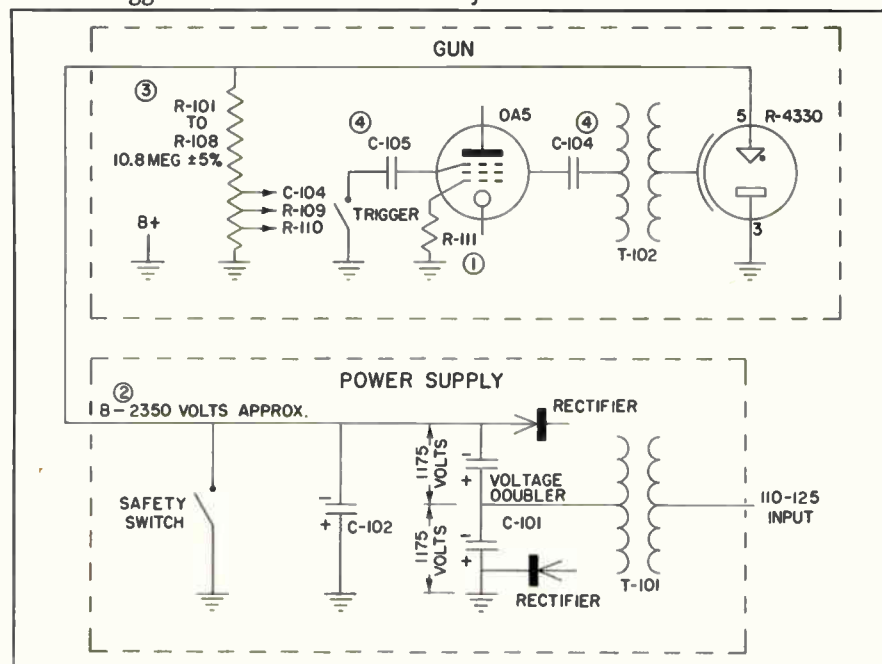

Figure 2. A partial single line schematic of a photoflash unit to aid in trouble shooting. Circled numbers indicate trouble points mentioned in the article.
When servicing electroflash units, the first thing to be determined is the location of the source of the trouble. In most cases, you can assume that if the "keep alive glow" is visible in the Sylvania Type OA5 trigger tube, the power supply is operating normally. The OA5 tube can be seen by unscrewing the bottom end cover on the base of the gun on Wabash models. The "keep alive glow" appears as a small lighted violet spot at the base of the tube elements. If the glow is not visible, it could, of course, be a gun defect such as a defective OA5 or an open resistor R-111, in Figure 2 (1)\*; but, as stated previously, the chances are that it is power supply trouble. Therefore, checking the power supply should be the next logical step. The power supply should be removed from the cabinet to be sure that the storage capacitor is discharged before any attempt is made to measure voltages. The case should never be removed from the gun before it is detached from the power supply.
After all precautions have been taken with the capacitor, a voltage reading should be taken of the output. The meter should be switched to its high range and connected to the circuit before the supply is turned on, bearing in mind that all Wabash electroflash equipment use a positive ground. Before turning the power supply on, set it in an upright position so as to disengage the shorting switch contact. The voltage reading obtained should be approximately 2350 volts, in Figure 2 (2), at a normal line voltage of 117 volts a c input in units using either Sylvania Type R-4330 or R-4340. Should the output reading obtained be much less than this figure, normal power supply service procedure can be used in checking out the components.
The first check should be a resistance reading of the voltage divider network made up of resistors R-101 to R-108 in Figure 2 (3). This can best be done by measuring between pins 3 and 5 of the flash tube socket or between pin 5 and the exposed shield of the high voltage cable. The reading obtained should be approximately 10.8 megohms, plus or minus five per cent. If the variation exceeds five per cent, check each resistor in the divider individually and replace if necessary. Special attention should be given to the value of R-101 to see that it is within its five per cent tolerance; intermittent operation may result if it is not. The unit will flash automatically without being triggered or will not flash at all, depending on whether R-101 is excessively above or below its specified tolerance. Should the divider resistors check okay, a check should then be made of the values of the trigger tube supply resistors, R-109, R-110 and R-111. Again, if any exceed their tolerance they should be replaced.
set of fully charged batteries in good condition. This figure is based on factory tests, flashing the unit every consecutive 20 seconds. However, flashing at longer intervals will reduce the number of available flashes proportionately. Certain conditions in the gun will alter those figures. A gun in good electrical condition will fire at a minimum voltage of 1750 volts. If the trigger supply voltages were not correct or the oscillatory trigger capacitors had over the nominal amount of leakage, the minimum flashing voltage would increase. Therefore, even if the batteries were in a fully charged condition, fewer flashes would be obtained, sometimes reducing to almost one-half the normal number. One of the most common causes of this reduced flashing voltage range is the condition of the capacitors C-104 and C-105 in Figure 2 (4). If a capacitance tester is not available, we suggest the replacement of these capacitors rather than relying on the familiar ohmmeter "kick" test. Ordinarily not much trouble should be encountered with the triggering transformer (T-102). Excessive moisture will affect its operation; therefore, the rubber weather-proofing band should always be replaced around the top of the gun and flash tube. The primary of the trigger transformer will
Figure 2 shows a cross-sectional diagram and proper biasing polarities for the four types of transistors that have been developed. It can be seen that the polarities of the supplies for the N-P-N junction and the P type point-contact transistors are similar to those used for vacuum tubes.